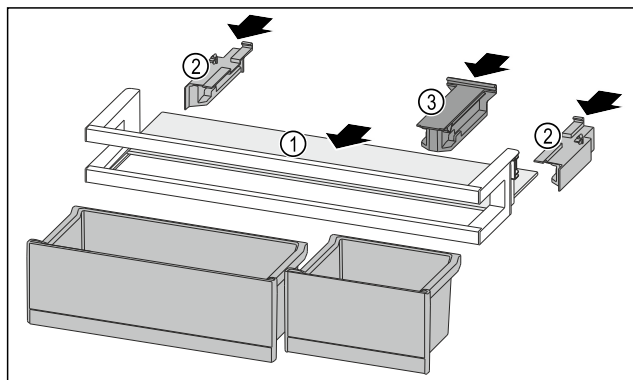

Fig. 96
- ▶ Push the shelf Fig. 96 (1) into the side recesses.
- ▶ Insert the side parts Fig. 96 (2).
- ▶ Insert the holding part Fig. 96 (3).